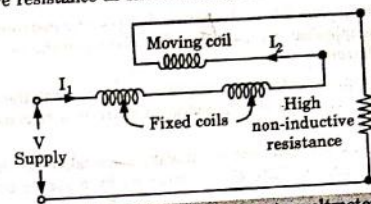

Fig. 1.15.3. Electrodynamicometer voltmeter.
1. The electrodynamicometer movement is used as a voltmeter by connecting the fixed and moving coils in series with a high non-inductive resistance as shown in Fig. 1.15.3.